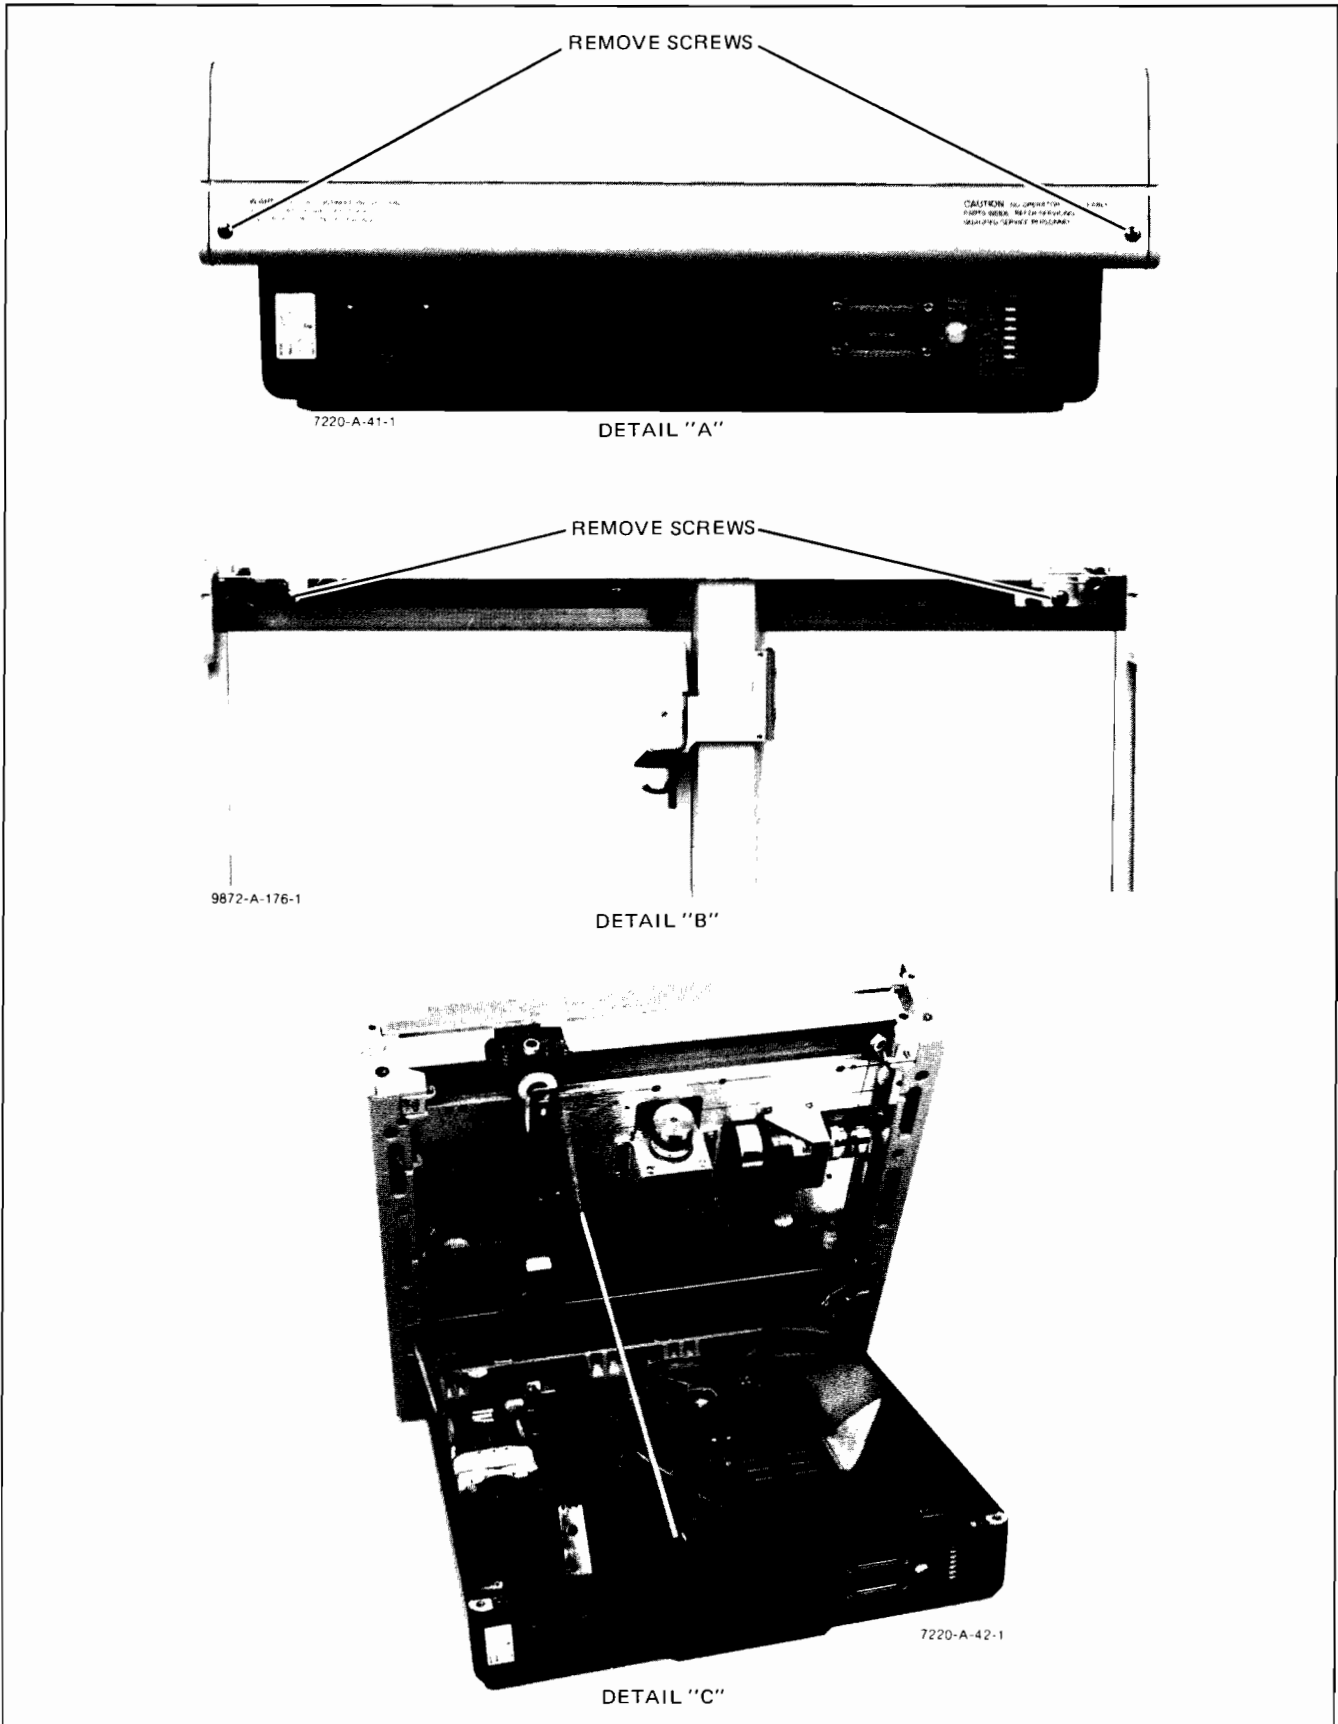

Figure 1-3. Opening the Plotter
- a. Switch the plotter OFF (O) and disconnect all cables.
1. Remove the two 6-32 trusshead screws, and lift off the rear hood. See Figure 1-3, Detail A.
2. Unscrew the two upper deck locking screws. These screws are captive and should not be removed. See Figure 1-3, Detail B.
3. Raise the upper deck, and place the latching bar in the slot provided. See Figure 1-3, Detail C.